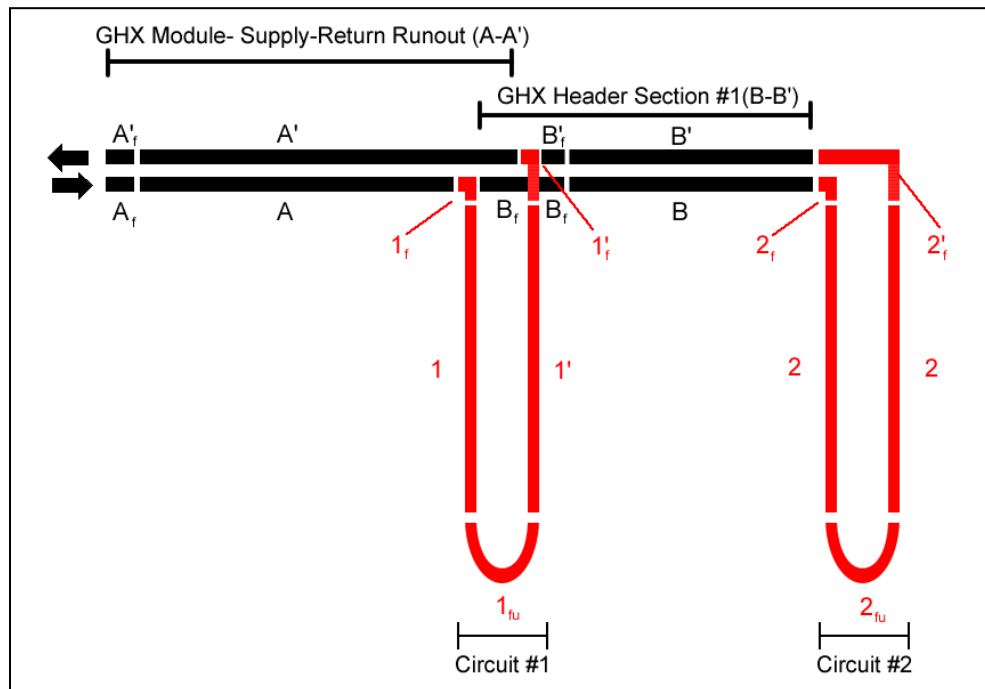
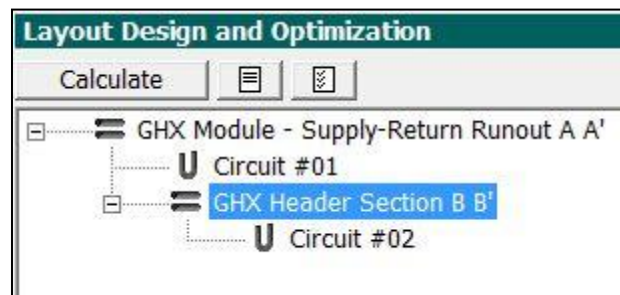

Fig. 11.61 Basic Direct Return Loopfield Layout 1
Fig. 11.62 Basic Direct Return Loopfield Layout 1 in Layout Manager Workspace
Figure 11.61 is an illustration of a direct return, two GHX Circuit GHX Module. The Supply-Return Runout, GHX header section and their associated fittings are in black. The GHX Circuits and their associated fittings are in red. *Note that pipe and fitting lengths within a single component do now have to be the same length. For example, the return pipe of the Supply-Return Runout (A') is longer than the supply pipe of the Supply-Return Runout (A).*
Between each connection a space has been added to visibly separate different sections of the system for easy comparisons with the layout structure in the CFD module. Figure 11.62 is the identical layout in the CFD module.
Note that in figure 11.61, the layout consists of a combination of the two components: the pipe pair and the GHX Circuit. Also note that for both circuits 1 and 2, the fittings for attachment to the return header pipes (1'f and 2'f) are longer than those attached to the supply header pipes (1f and 2f). There is no requirement that each subcomponent in a particular component has a uniform length. Indeed, the designer has as much control as he or she desires.
In figure 11.61, a parallel flow path occurs where supply pipe A of the GHX Module Supply-Return Runout branches into two components: Circuit #1 and supply pipe B of GHX Header Section BB'. The fluid flows in Circuit #1 and supply pipe B of GHX Header Section BB' therefore are in parallel. Circuit #1 and supply pipe B of GHX Header Section BB' are siblings because they share the same parent. In the CFD Layout Manager Workspace, parallel flow paths or siblings are *vertically stacked* directly above one another. This can be seen in figure 11.62 where Circuit #1 is directly above GHX Header Section BB'.
In figure 11.61 a series flow path occurs where supply pipe B of GHX Header Section BB' continues into Circuit #2. The fluid flow from supply pipe B of GHX Header Section BB' to Circuit #2 is therefore in series. Supply pipe B of GHX Header Section BB' is the parent of Circuit #2 and Circuit #2 is the child of supply pipe B of GHX Header Section BB'. In the CFD Layout Manager workspace, serial flow paths or parent/child relationships are *stacked with indentation*. This can be seen in figure 11.40 where Circuit #2 is one level below the GHX Header Section B and indented. What this means is that Circuit #2 is connected to GHX Header Section B in series.
To solidify our understanding of how the Layout Manager Workspace diagrams direct return systems, we will follow the fluid flow in figure 11.62. Because there are two GHX Circuits, there are two major flow paths. The flow path(s) are as follows: